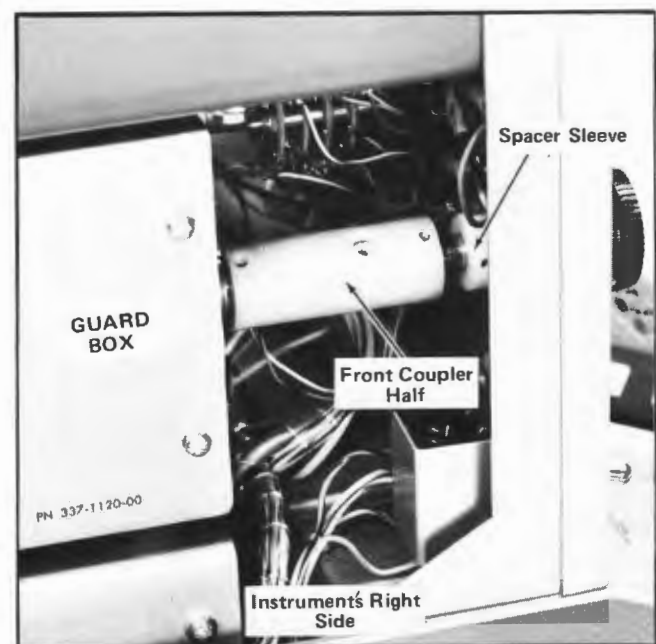

Fig. 4-4. MAX PEAK VOLTS- PEAK POWER WATTS switch assembly.
- b. Looking behind the front panel, loosen the Allen screw which can be seen through the hole in the front of the front coupler half (see Fig. 4-4).